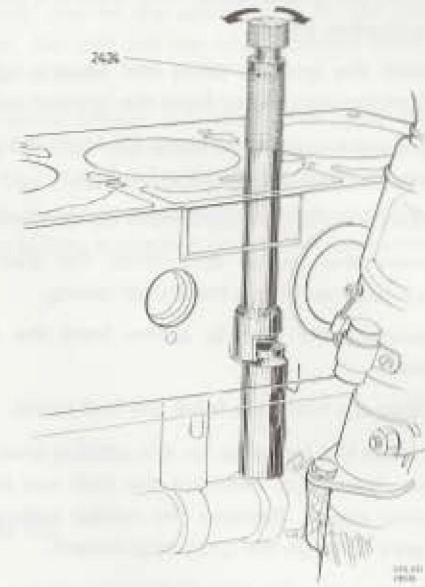

Fig. 21-7. Lifting out valve tappets
4. Remove the alternator, coolant pump, distributor, rocker arm casing, rocker arm mechanism, push rods, oil filter and oil cooler. Remove the manifold and carburettors. Remove the cylinder head. Remove the valve tappets with tool 2424, Fig. 21-7.